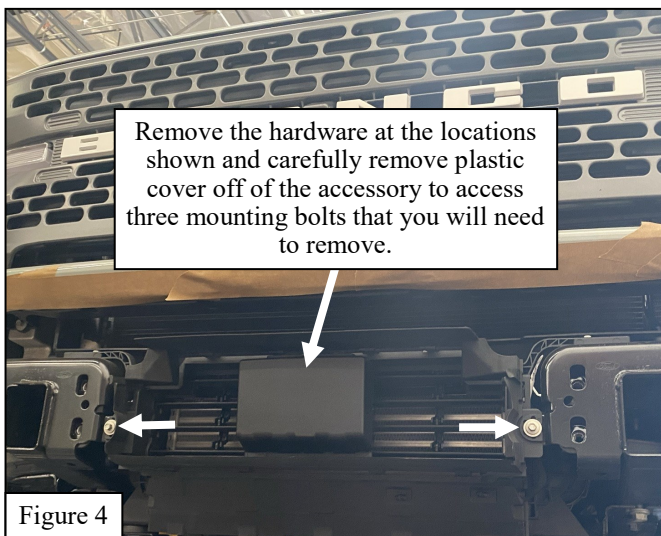

Figure 4
5. Remove and unplug the OEM Active Cruise Control accessory since it will be relocated using supplied bracket and hardware. See **Figure 4** for reference.